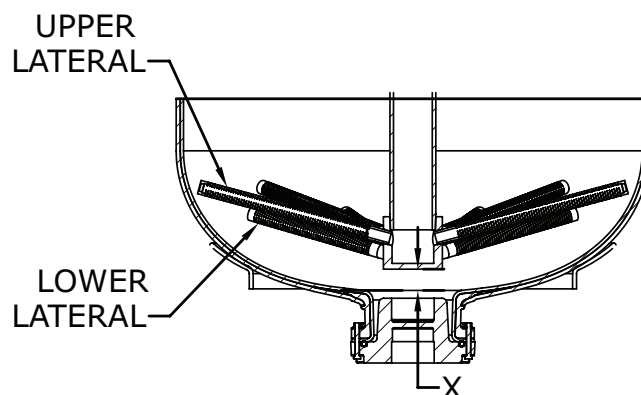

Figure 5. Dimension X between hub and bottom of tank.
6. For the larger tanks, install two of the longer laterals. After installing the two laterals, position the manifold from the top of the tank with the laterals just touching the bottom of the tank. Mark the riser pipe flush with the top of the tank flange. Remove the laterals and remove the riser pipe from the tank. Measure about 1" down the riser pipe (towards the hub) and make another mark. Squarely cut off the riser pipe at this mark. De-burr the cut. When installed, the hub and laterals should sit on the underbedding and not rest on the inside of tank. See Figure 5.